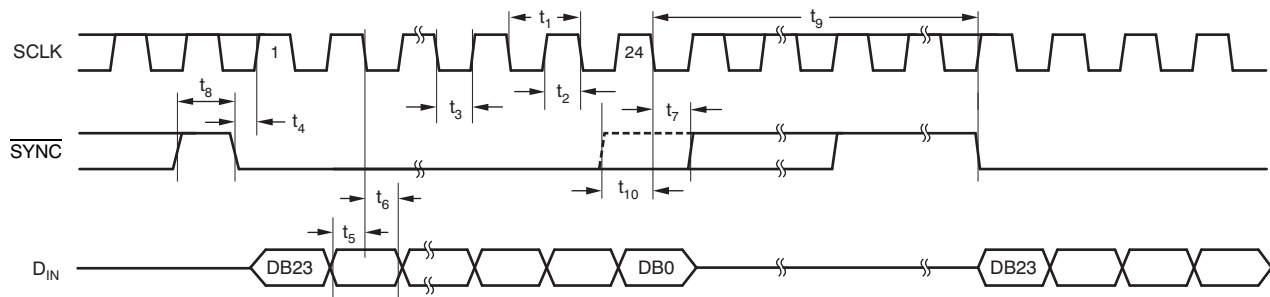

Figure 1. Serial Write Operation
- (1) All input signals are specified with $t_R = t_F = 3\text{ ns}$ (10% to 90% of V_{DD}) and timed from a voltage level of $(V_{IL} + V_{IH}) / 2$.
(2) See Figure 1.
(3) Maximum SCLK frequency is 3 0MHz at $V_{DD} = 3.6\text{ V to }5.5\text{ V}$ and 20 MHz at $V_{DD} = 2.7\text{ V to }3.6\text{ V}$.